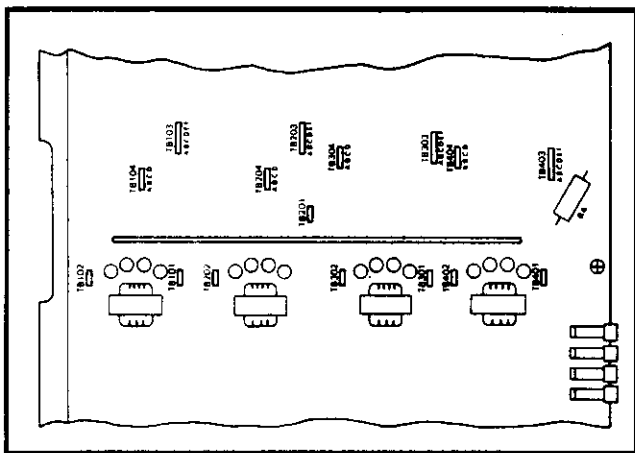

FIGURE 26—DSLUS PCB STRAPPING LOCATIONS
05.78 Three separate strappings must be made for each of the four circuits on the DLSU PCB (Figure 26).
- 3) When the CO distance exceeds a 2,000-ohm loop resistance, Battery-to-Ground Dial Pulsing should be used. For a distance of less than 2,000-ohm loop resistance, use Loop Dial Pulsing. The strapping locations for each circuit are shown below (Figure 26):
- 4) Strap for each DSLU circuit as shown in Figure 26:
- 5) Each DSLU circuit must be adjusted for CO trunk loop resistance to ensure proper detection of incoming digits. Each circuit adjustment is made by strapping at the locations shown in (Figure 26):